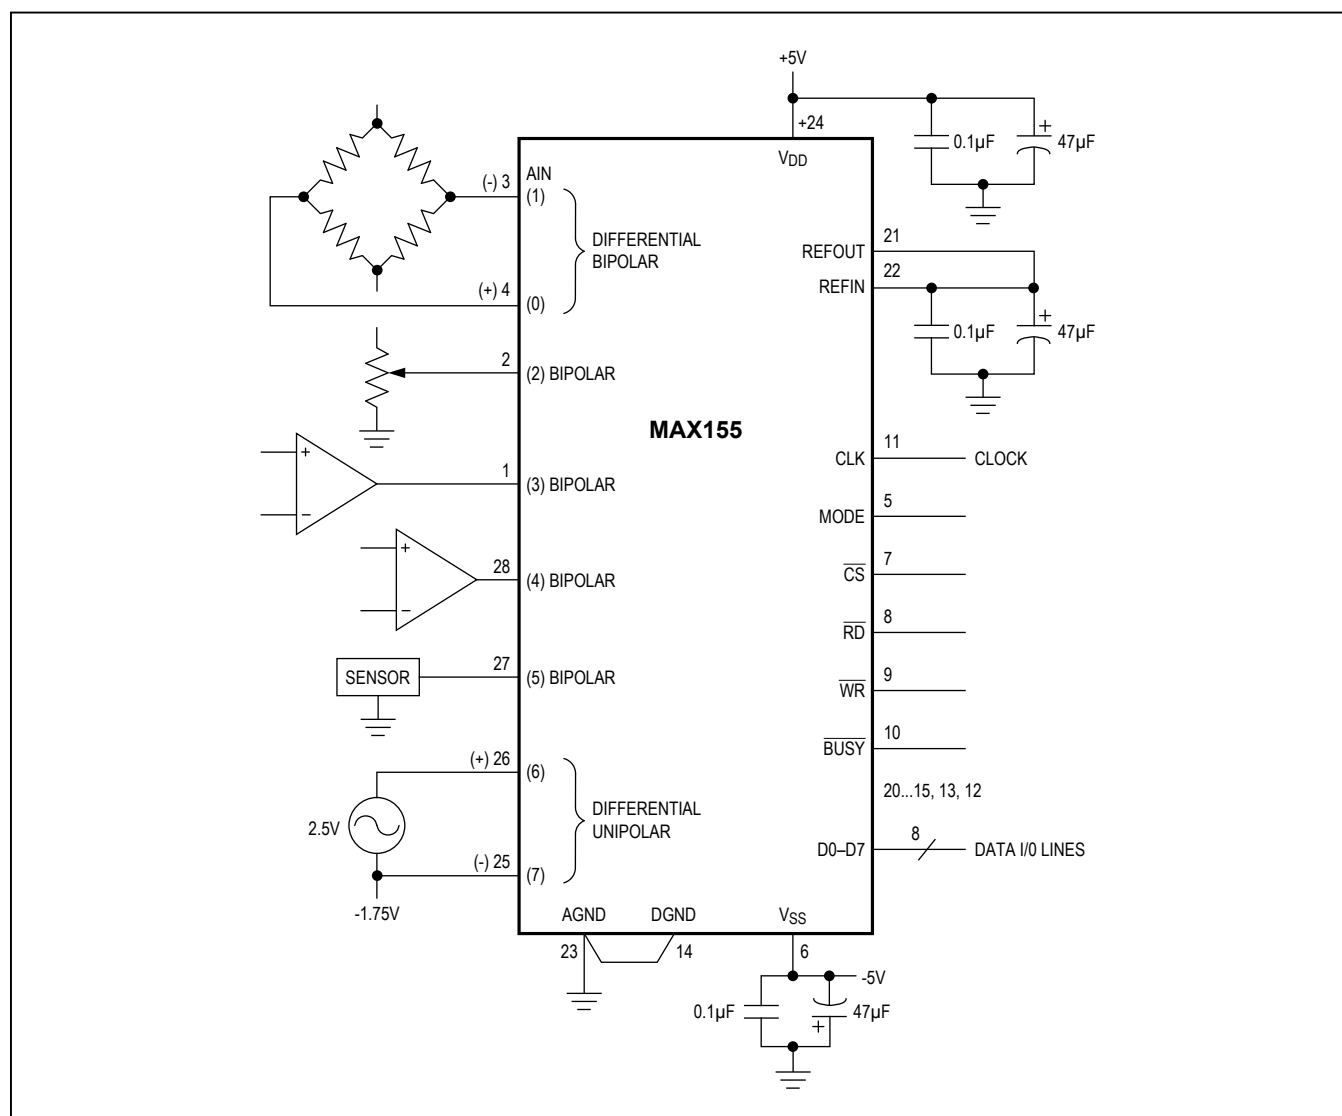

Figure 10. MAX155/MAX156 Typical Operating Circuit
where N is the number of channels converted. This includes one clock cycle of uncertainty. For a single channel and 5MHz clock, the conversion time is $(9 \times 1 \times 2) / 5\text{MHz} = 3.6\mu\text{s}$. For the MAX155, the maximum conversion time for 8 channels is $(9 \times 8 \times 2) / 5\text{MHz} = 28.8\mu\text{s}$. In the application example (Figure 10), six conversions are configured, and the conversion time is $(9 \times 6 \times 2) / 5\text{MHz} = 21.6\mu\text{s}$.
The MAX155/MAX156 address and configuration inputs for this example were determined by selecting the desired channel configurations in Tables 2 and 3. Figure 10 illustrates the configuration outlined in Table 5.
- 3) Data is read from RAM with $\text{INH} = \text{L}$ and consecutive $\overline{\text{RD}}$ strobes. Note that in the 6 channel configurations described in this example (Figure 10), 6 $\overline{\text{RD}}$ pulses access all available data, start with the differential channel (1, 0). Additional $\overline{\text{RD}}$ pulses loop around, accessing the lowest channel data again.